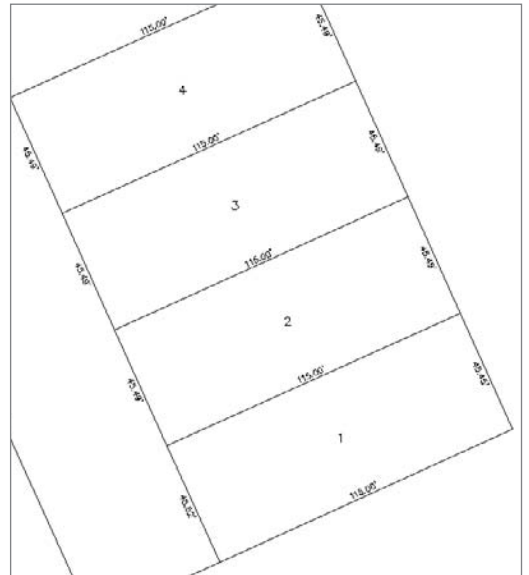

Figure A.31
8. At the **End point:** prompt, click inside **Single-Family: 10**, and then click inside **Single-Family: 21**. Press ↵ to end the command. The parcel labels will change to **Number Only**, as shown in Figure A.31.